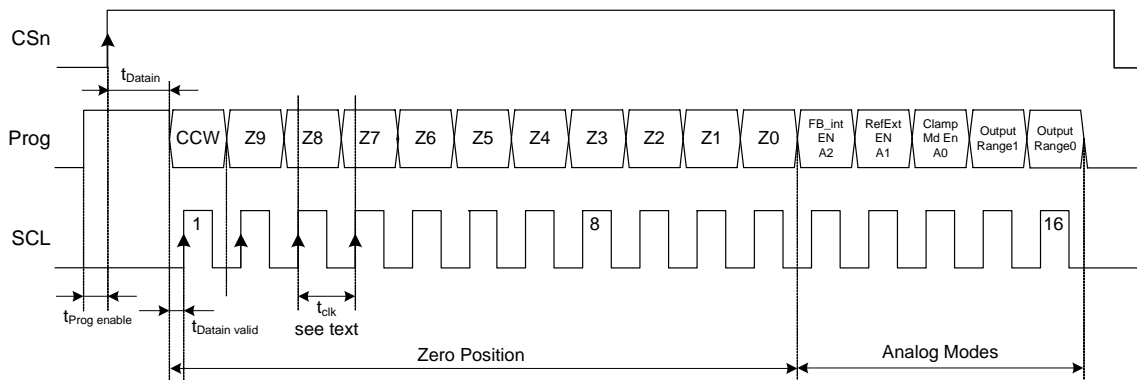
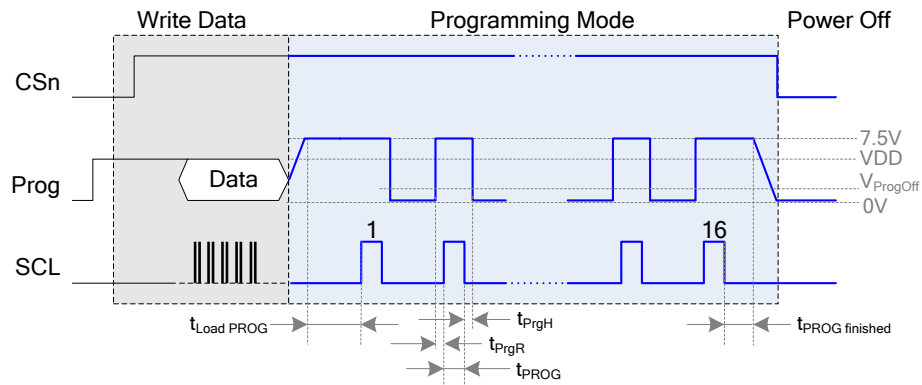
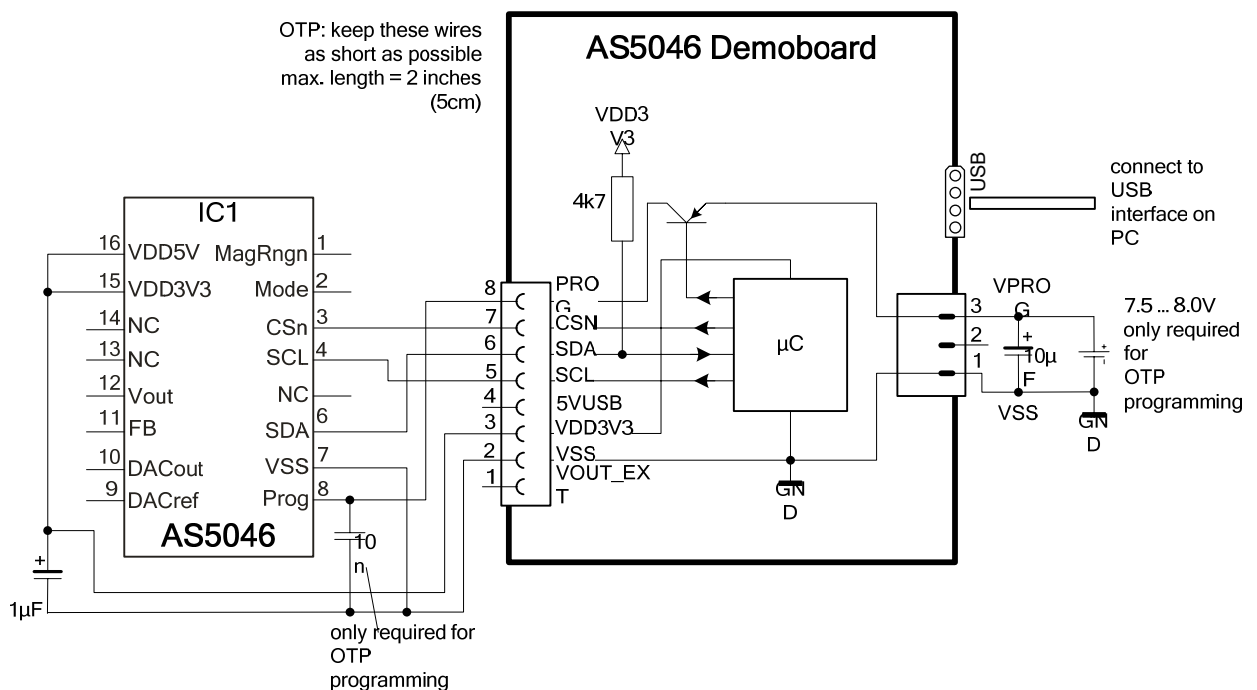

Figure 13: Programming Access – OTP Write Cycle (section of Figure 14)
Figure 14: Complete OTP programming sequence
Figure 15: OTP programming hardware connection of AS5046 (shown with AS5046 demoboard)
- Changing the address also changes the analog mode, as these OTP bits share the same position. (see Figure 13)
After power-on, programming the AS5046 is enabled with the rising edge of CSn and Prog = logic high. 16 bit configuration data must be serially shifted into the OTP register via the Prog-pin. The first “CCW” bit is followed by the zero position data (MSB first) and the Analog Output Mode setting as shown in Table 9. Data must be valid at the rising edge of CLK (see Figure 13). Following this sequence, the voltage at pin Prog must be raised to the programming voltage V_{PROG} (see Figure 14). 16 CLK pulses (t_{PROG}) must be applied to program the fuses. To exit the programming mode, the chip must be reset by a power-on-reset. The programmed data is available after the next power-up.
Note: During the programming process, the transitions in the programming current may cause high voltage spikes generated by the inductance of the connection cable. To avoid these spikes and possible damage to the IC, the connection wires, especially the signals PROG and VSS must be kept as short as possible. The maximum wire length between the V_{PROG} switching transistor and pin PROG (Figure 15) should not exceed 50mm (2 inches).
is not required for normal operation. The clock timing t_{clk} must be selected at a proper rate to ensure that the signal PROG is stable at the rising edge of CLK (see Figure 13). Additionally, the programming supply voltage should be buffered with a 10µF capacitor mounted close to the switching transistor. This capacitor aids in providing peak currents during programming. The specified programming voltage at pin PROG is 7.3 – 7.5V (see section 5.7). To compensate for the voltage drop across the V_{PROG} switching transistor, the applied programming voltage may be set slightly higher (7.5 - 8.0V, see Figure 15).
This procedure is essentially a “Write Data” sequence (see Figure 13) without a subsequent OTP programming cycle.
During analog readback, the capacitor at pin PROG (see Figure 15) should be removed to allow a fast readout rate.